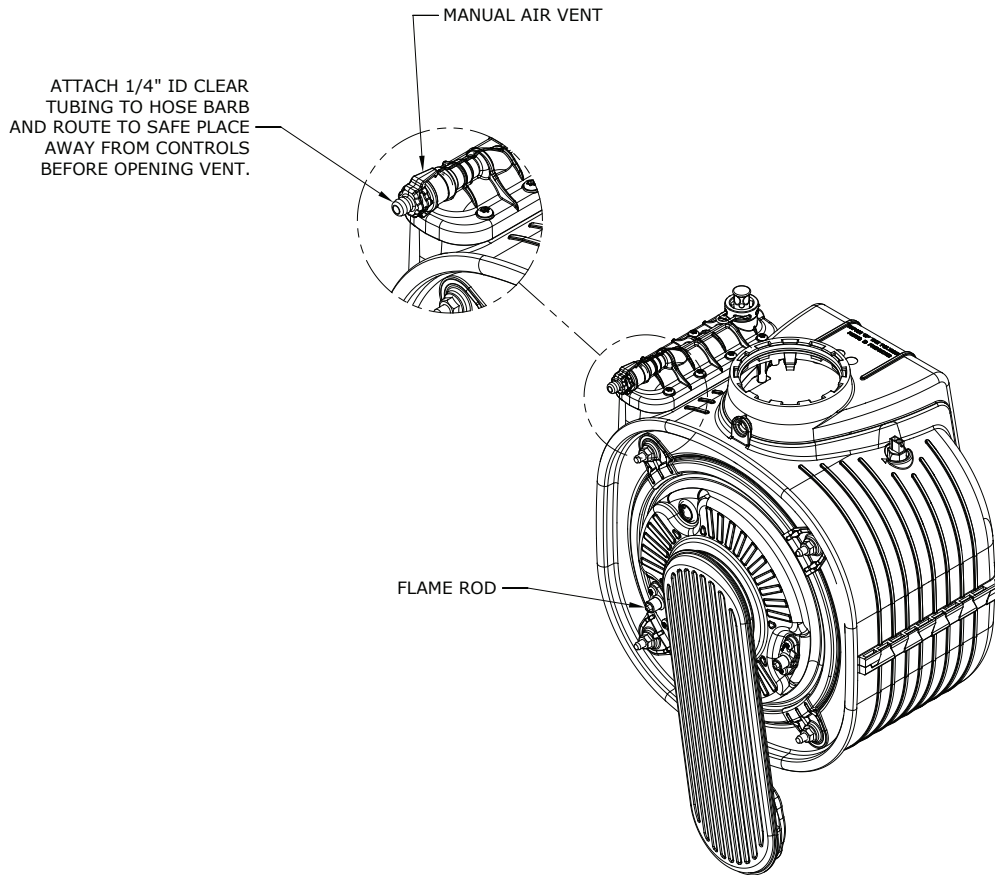

Figure 12.1: Location of Manual Air Vent
6. Bleed air from the heat exchanger using the manual air vent in the top left side of the heat exchanger (Figure 12.1). To do this install a piece of 1/4" ID clear tubing over the hose barb and route the tubing to a location where water will not damage controls or nearby construction. Turn vent counter clockwise and allow heat exchanger to vent until a steady stream of water is observed. Close vent and remove hose.
17. Perform a check of the ignition safety shut-off device. With the burner firing, carefully unplug the orange flame rod wire at the flame rod using a pair of insulated pliers (Figure 12.1). The burner should shut off immediately.